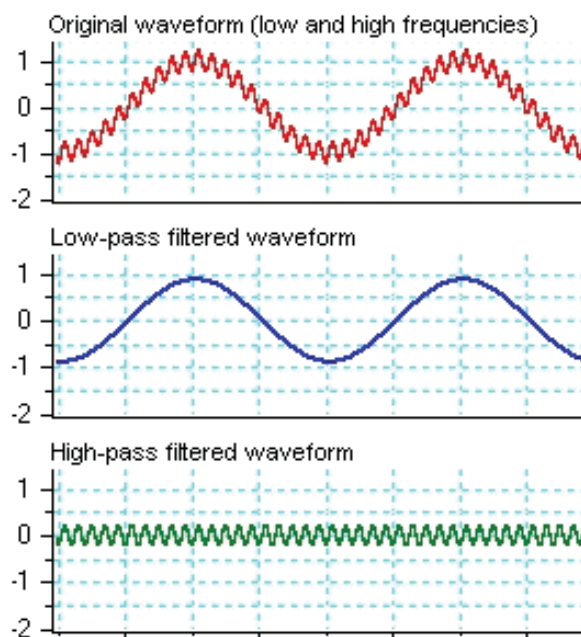

Figure 3. Effects of low and high pass filters on a signal waveform.
A high-pass filter allows frequencies higher than the cut-off frequency to pass and removes any steady direct current (DC) component or slow fluctuations from the signal. Such filters are often used to stabilize the baseline of a signal (i.e. minimize baseline drift in an ECG signal). A useful comparison of the effects of a low-pass filter in comparison to a high-pass filter is presented in Figure 3.